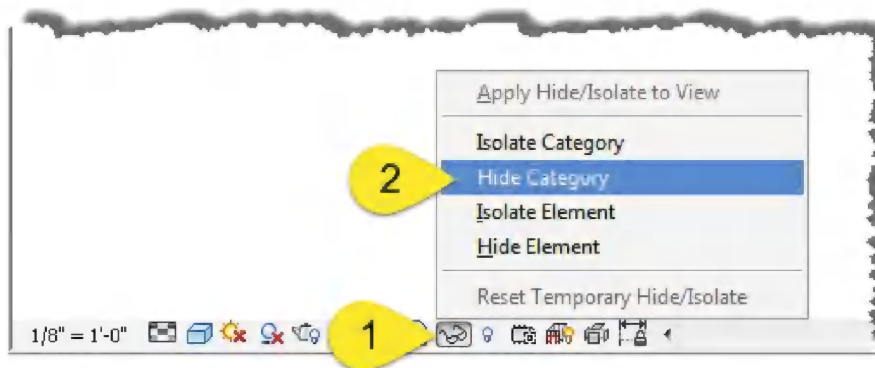

FIGURE 11-3.2 Hide/Isolate popup menu
You should see the menu shown in **Figure 11-3.2** show up next to the *Temporary Hide/Isolate* icon. This allows you to isolate an object (so it's the only thing on the screen) or hide it (so the object is temporarily not visible).
11. Click **Hide Category** in the menu (Figure 11-3.2).